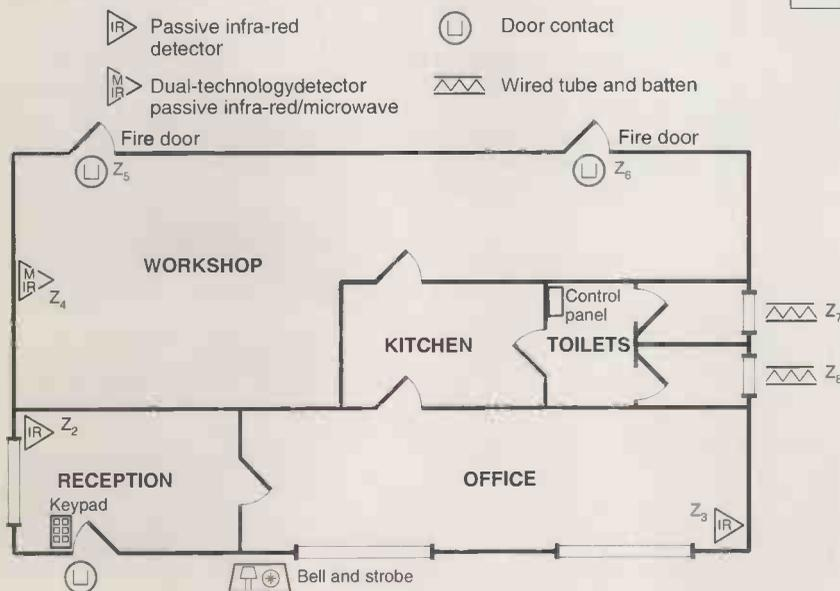

Fig. 1. When an alarm system is being planned, the area concerned is first broken down into zones.
*hour*, where a zone is always active; *Walkthrough*, where a zone will not respond when an entry zone has been activated, but will otherwise signal an alarm; *Part Set Active*, which determines which zones are active when only part of the system is to be set; *Cleaner Access*, where entry of a different (cleaner) code will only disable certain zones; *Omit Permit*, determines if the customer will be allowed to omit a zone from the system. This last feature is used to prevent high security areas from being left unprotected. Typical applications of these zone responses (attributes) are illustrated in Fig. 1, which depicts a modest system in a small factory unit.